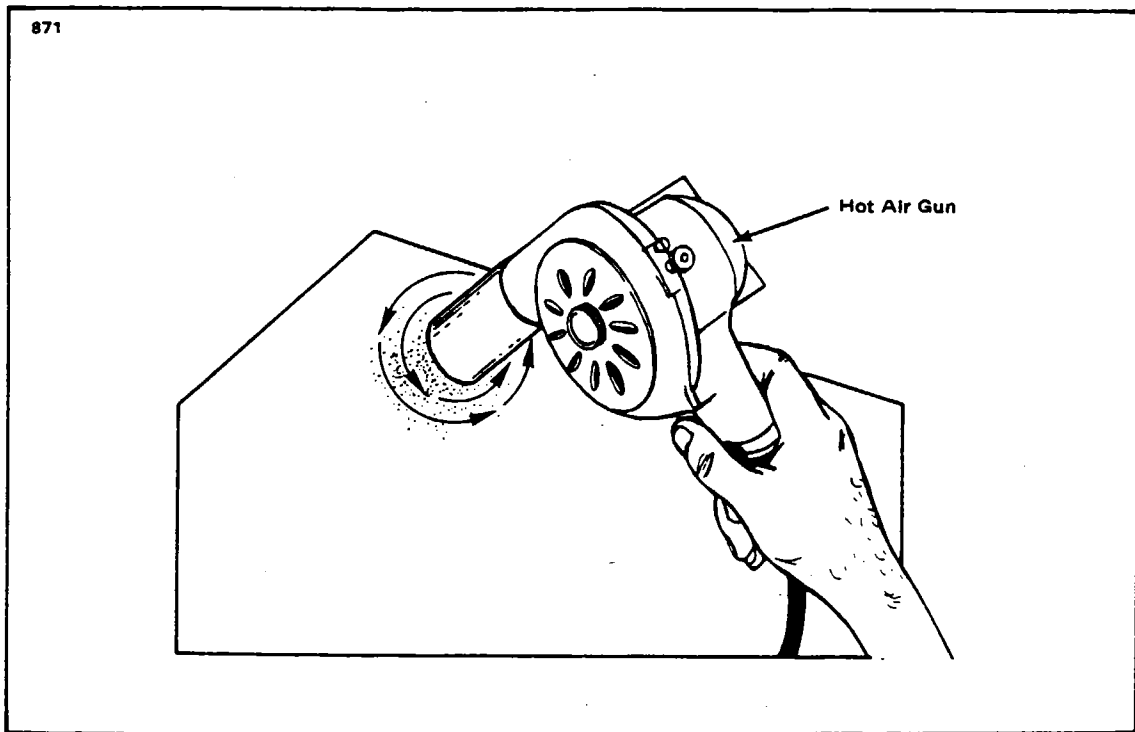

Figure 4-6. Surface Scratches, Abrasions or Ground-in-Dirt.
b. Surface Scratches, Abrasion or Ground-in-Dirt: (Refer to Figure 4-6.)